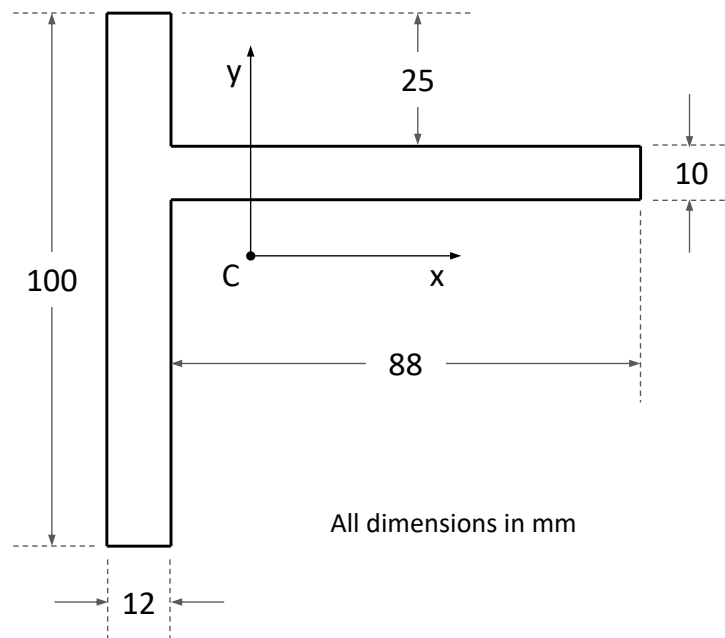

Figure Q1
1. Figure Q1 shows the cross-section of a beam.